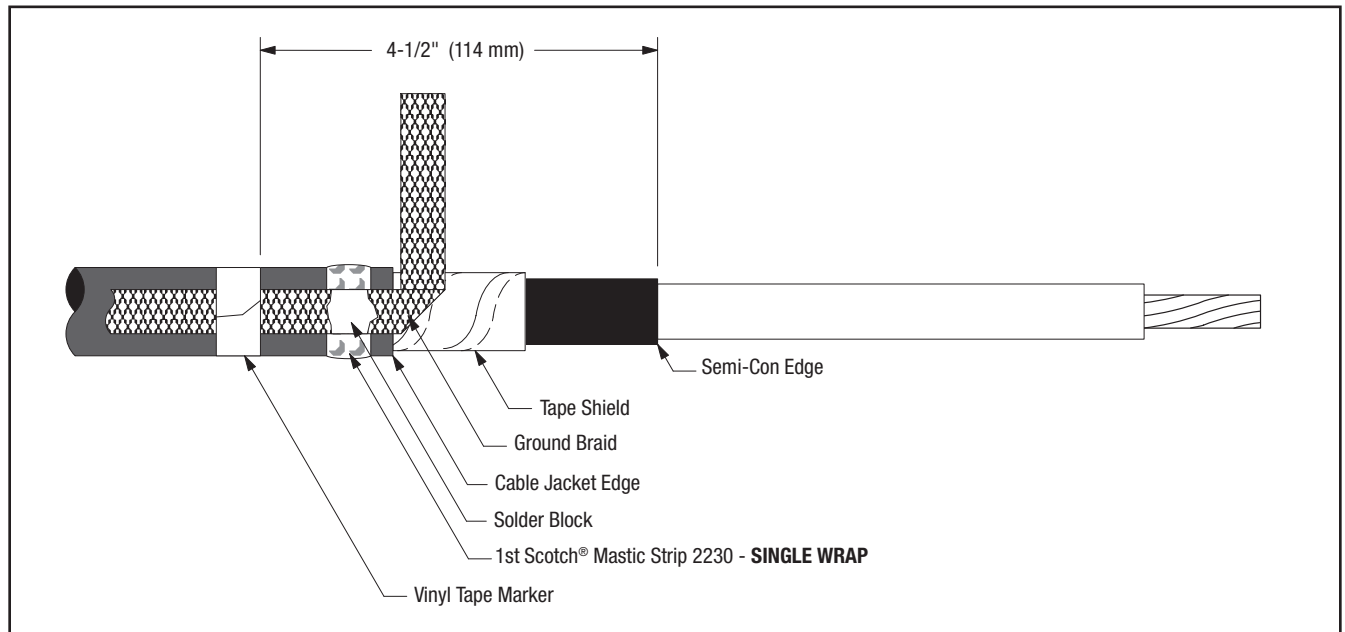

Figure 3
- 3.2 Position pre-formed ground braid with short tail over tape shield directly adjacent to cable jacket cut edge. PLEASE NOTE: The ground braid needs to make full contact with the metallic tape shield. Position long tail of ground braid, extending over cable jacket with solder block over mastic strip (Figure 3). Secure ground braid to cable jacket 4-1/2" (114 mm) from cable semi-con edge using vinyl tape (see NOTE and Figure 3).